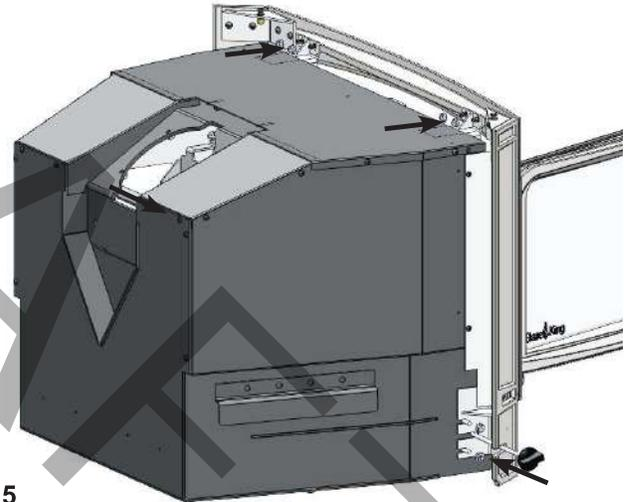

Fig. 5
5. Once in position, fasten flange nuts onto threaded posts using a 7/16" wrench. (**Fig. 5**)